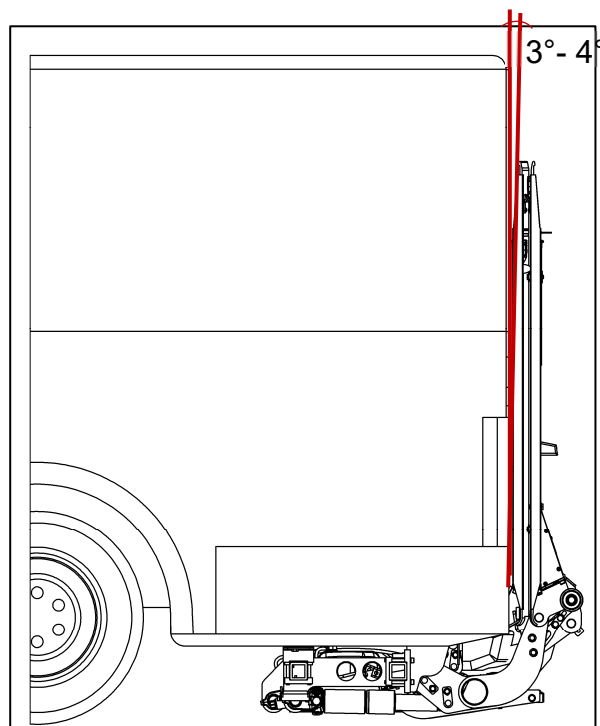

Fig. 76
- Hydraulically close the platform until not quite vertical, leaving it open  $3^{\circ}$  to  $4^{\circ}$  (see Fig. 76).